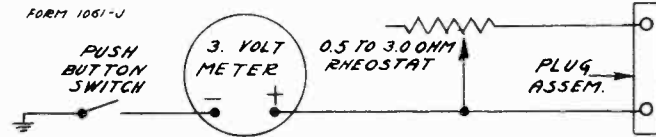

Fig. 6—Schematic Diagram of Voltage Regulator
**3 Volt "A" Battery**—The voltage regulator required with this type of battery as illustrated in Fig. 5 consists of a resistor and a variable resistor. This device consists of a rheostat which controls the voltage, a voltmeter for measuring its value as supplied to the receiver and a small push button switch for cutting the voltmeter in and out of the circuit. It has two prongs at the bottom which plug into the socket on the platform at the rear left corner of the chassis. The circuit diagram of the regulator is shown in Fig. 6.